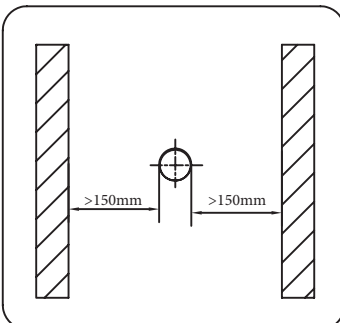

Fig 8
- Use the insulating refractory with more than 20mm in thickness to wrap the exhaust pipe if it needs to pass through the wall or the combustible materials. Fig 8
- The distance between the outlet of the exhaust pipe and the objects surrounding is as shown in Fig 8 and Fig 9.